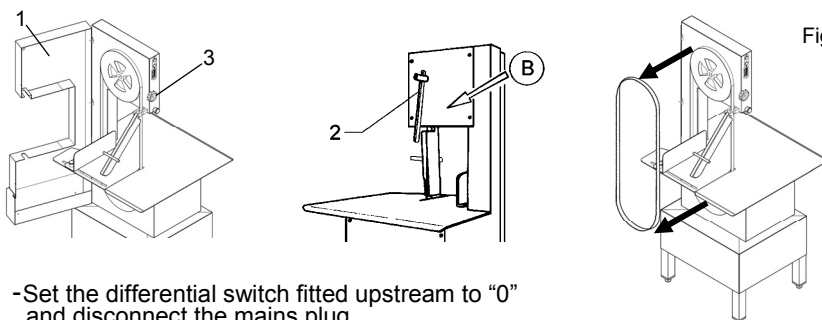

Fig. 7.6.2
7.6.2 Replacing the blade (Fig. 7.6.2)
- Release knob “2” as indicated in fig. 7.6.2 arrow “B”.
- Stretch the blade rotating the knob in position “A” (Fig. 7.6.2).